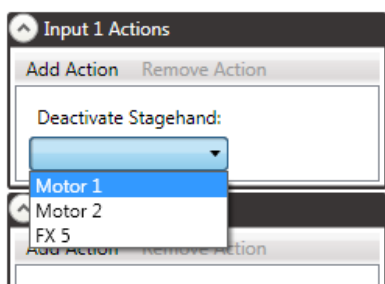

Figure 104
4. From the **Deactivate Stagehand** drop down menu, select the FX or Motor that should be deactivated when the FX Input is closed (Figure 104).